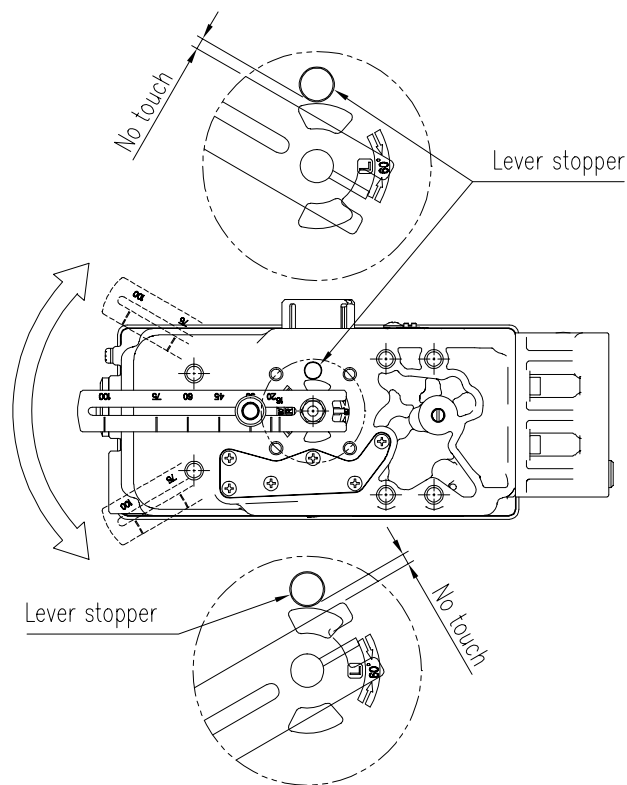

Fig. 3-15: YT-3300L / 3350L Feedback lever should not touch lever stopper on 0 % ~ 100 % valve stroke.
- 8) After installing the positioner, operate the valve from 0 % to 100 % stroke by using direct air to the actuator. On both 0 % and 100 %, the feedback lever should not touch the lever stopper, which is located on the backside of the positioner. If the feedback lever touches the stopper, the adapter holder should be moved or the adapter of feedback lever should be moved further away from the main shaft of the positioner. Refer to Fig 3-15.